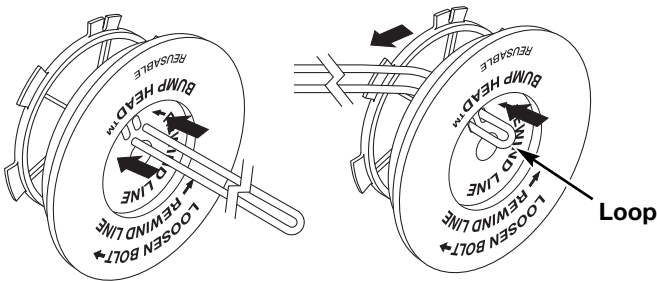

Fig. 27
- Take approximately 20 feet (6 m) of new trimming line, loop it into two equal lengths. Insert each end of the line through one of the two holes in the inner reel (Fig. 27). Pull the line through the inner reel so that the loop is as small as possible.